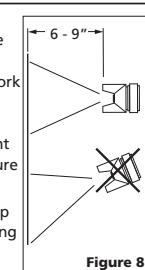

Figure 8
- Begin spraying. Always keep the gun at right angles to the work by flexing your wrist while making the paint stroke. (See Figure 8).